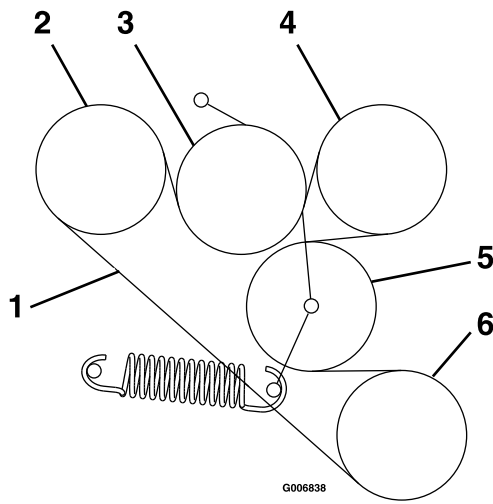

Figure 59
6. Route the new belt onto the pulleys as shown in the decal located on the back of the left drive shield (Figure 59).